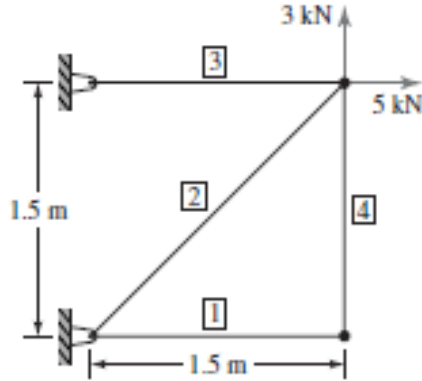

Fig. 3
3. The plane truss shown in Figure 3 is composed of members having a square $15 \text{ mm} \times 15 \text{ mm}$ cross section and modulus of elasticity $E = 69 \text{ GPa}$. Find